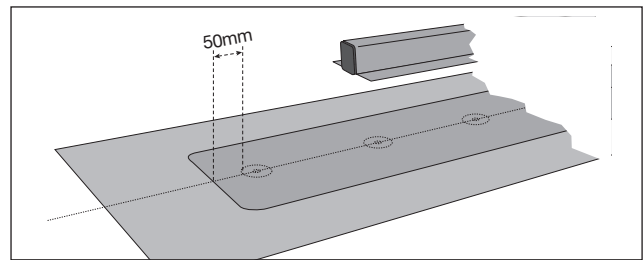

Figure 2
- The cover strap must extend the row by a further (min.) 50mm from each end of the EJOBAR. - **see figure 2.**